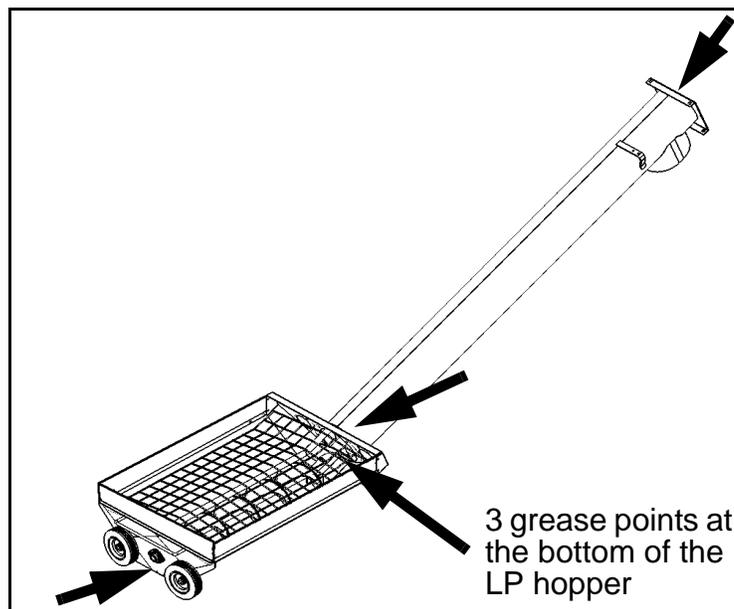

Figure 6.1
3. Using the grease recommended in Section 6.1., grease points on the machine (shown by arrows in Figure 6.1.)